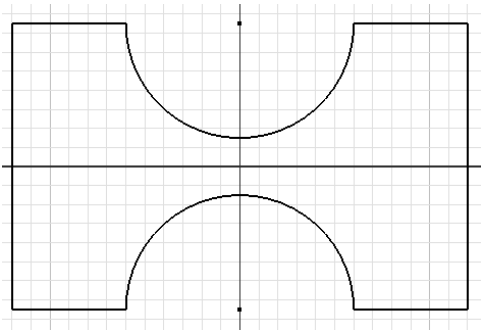

Figure 2-55 Final sketch for Tutorial 3
- b. Draw the sketch by using the **Arc** and **Line** tools, refer to Figure 2-55.
16. The final sketch for Tutorial 3 is shown in Figure 2-55.